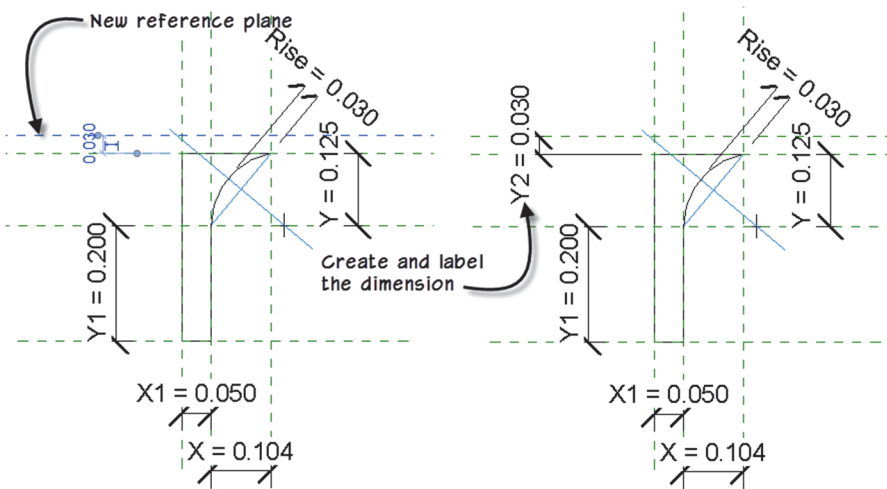

FIGURE 4.44
- ⇒ Label the dimension with a new type-based parameter named: **Y2**. Group it under Constraints (see Figure 4.44).